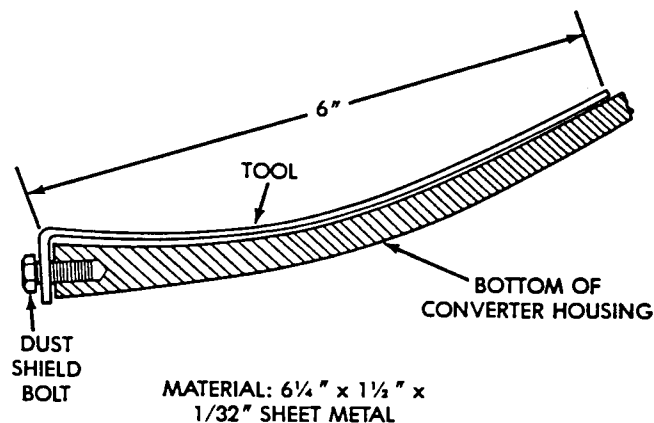

Fig. 5 Leak Locating Test Probe Tool
(1) Remove torque converter housing dust shield.
(2) Clean the inside of torque converter housing (lower area) as dry as possible. A solvent spray followed by compressed air drying is preferable.
(3) Fabricate and fasten test probe (Fig. 5) securely to convenient dust shield bolt hole. Make certain torque converter is cleared by test probe. Tool must be clean and dry.
(4) Run engine at approximately 2,500 rpm with transaxle in neutral, for about 2 minutes. Transaxle must be at operating temperature.
(5) Stop engine and carefully remove tool.
(6) If upper surface of test probe is dry, there is no torque converter leak. A path of fluid across probe